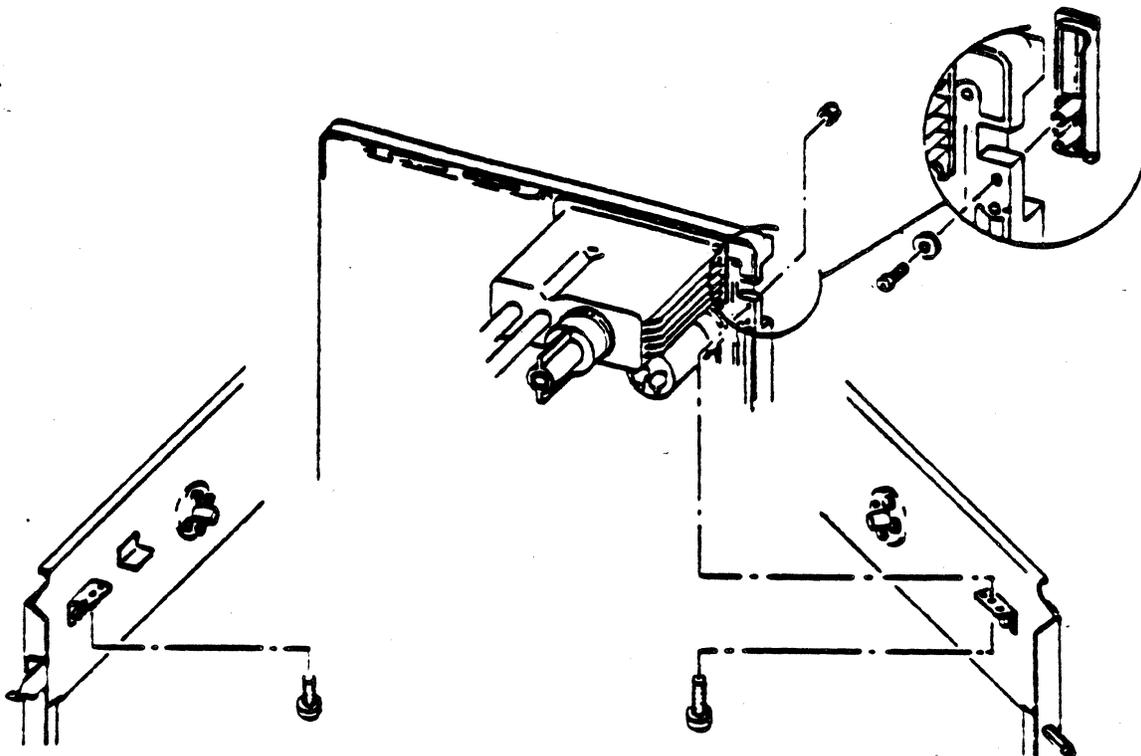

Figure 3-18. Tape Deck Shipping Screws
14. From the underside of the tape deck, remove the two slotted hex head screws (one on left side and one on right side) passing through the angle brackets into the tape deck. See figure 3-18.
19. Remove the hinge cover kit, P/N 77023062, taped to the manual packet in the bottom of the cabinet and attach the hinge block cover to the top of the tape deck with two #6-20 x .75 inch self-tapping screws and flat washers. See figure 3-18.